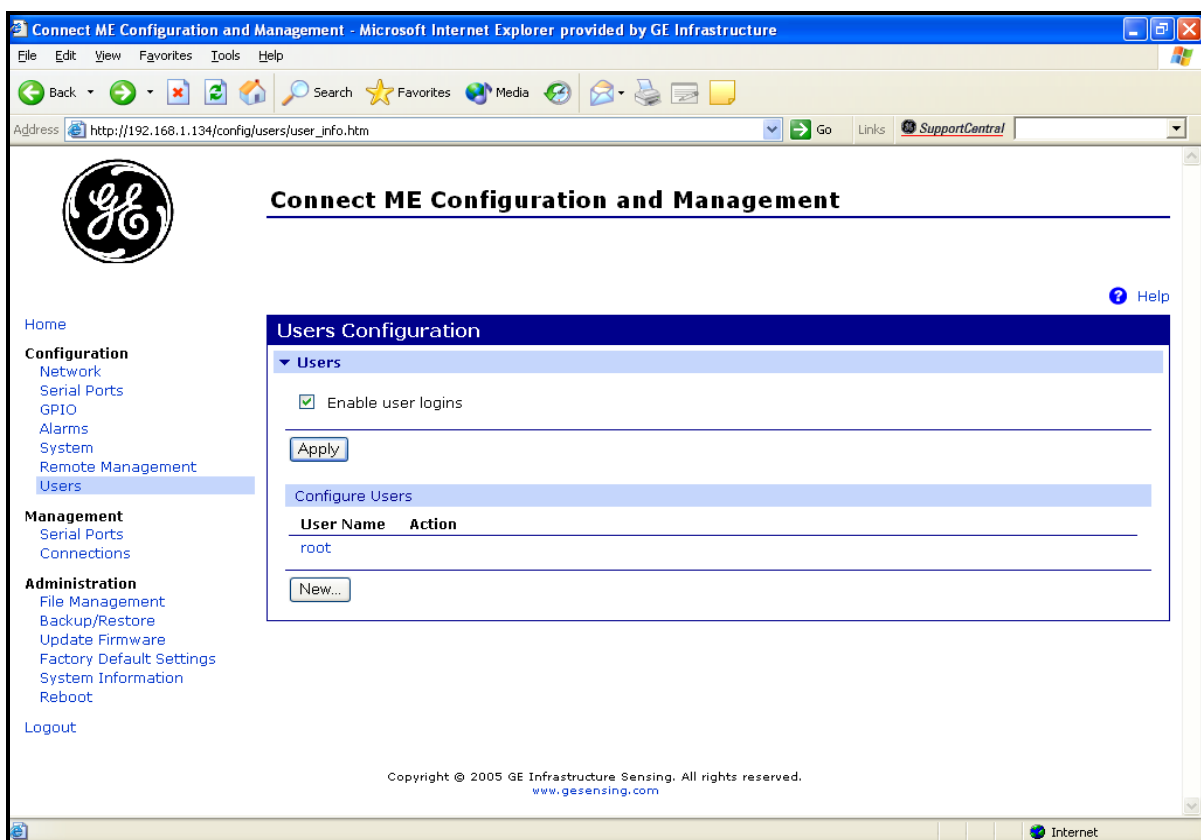

Figure 24: User's Configuration Menu
3. Click on **Login**. Figure 24 below appears.